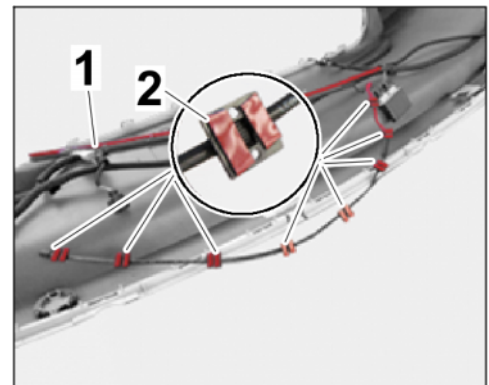

Figure 12
2.6.4 Stick double-sided adhesive tape on flat-band conductor (sensor 1) and holder for coaxial conductor (sensor 2) (⇒ *Figure 12*).